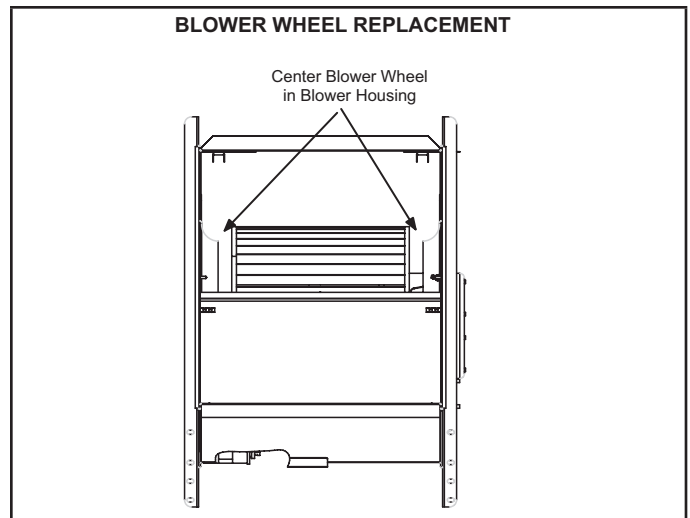

FIGURE 12
If replacing the indoor blower motor or blower wheel is necessary, placement is critical. The blower wheel must be centered in the blower housing as shown in figure 12. When replacing the indoor blower motor the set screw must be aligned and tightened with the motor shaft as shown in figure 13.
- 5 - The electrical connectors of the motor should be facing down to form a drip loop (figure12). This will directs moisture away from the motor and its electric connections on the motor